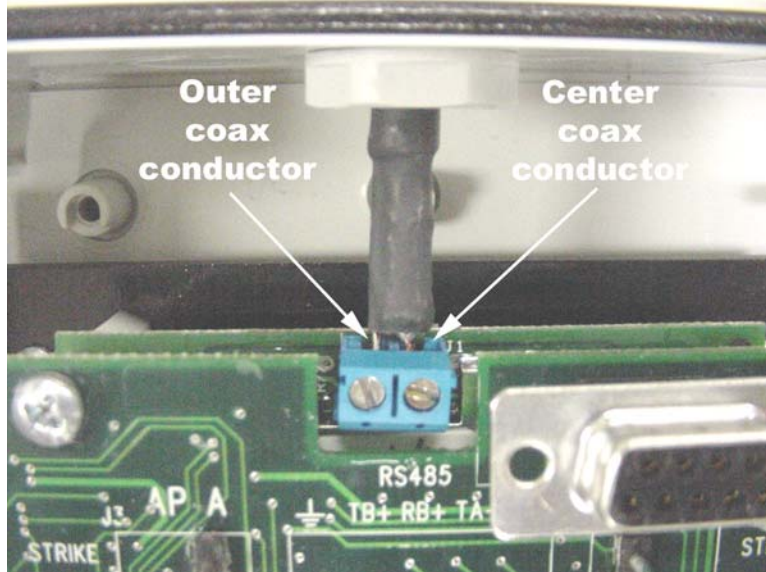

Figure 5-12 – PIM PCB Antenna Terminal Block Connections
5.7.7 Attach the Remote Antenna Coax to the PIM PCB Antenna Terminal Block (Figure 5-12).